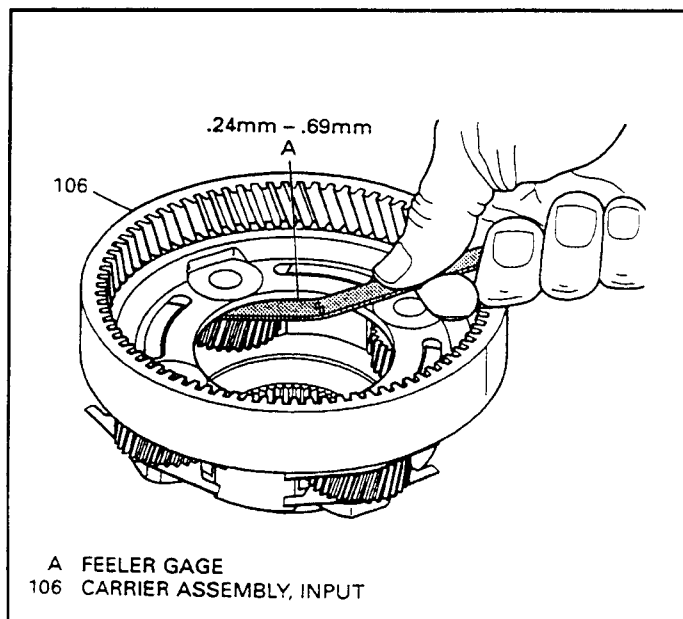

Figure 123
2. Measure the pinion gear end play with a feeler gage for proper clearance (See Figure 123).
3. Should be .009"-.027" (.24mm-.69mm), as shown in Figure 123.